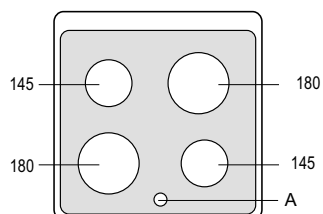

Fig. 3
2. After disconnecting the heating zones remain hot for some time, which is signalled by the heating zone indicator (pos. A fig. 3)